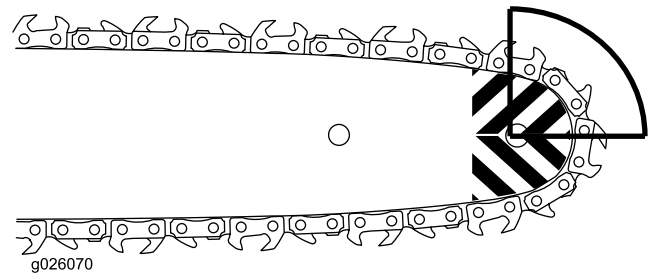

Figure 8
- A fast upward motion of the chain saw that occurs when the chain at the nose or top of the bar (Figure 8) contacts an object.
- A fast backward motion of the chain saw that occurs when the chain at the nose or top of the bar (Figure 8) is pinched by the object being cut.